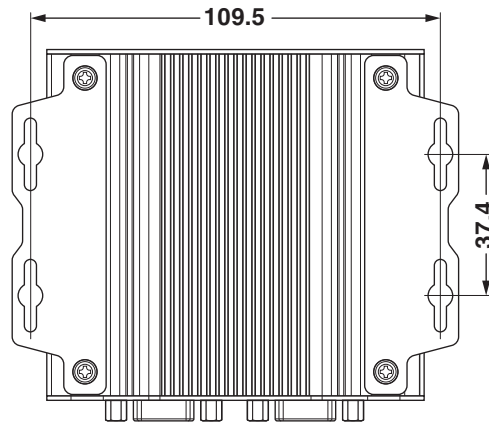

Figure 3-2 Wall-mount dimensions
3. Use the BL2 BPC 15... as a template (or refer to Figure 3-2) and mark the locations of the mounting holes on the mounting surface.